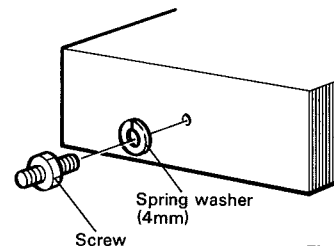

Fig. 3
3. Stay mounting screw installation. (Fig. 3)